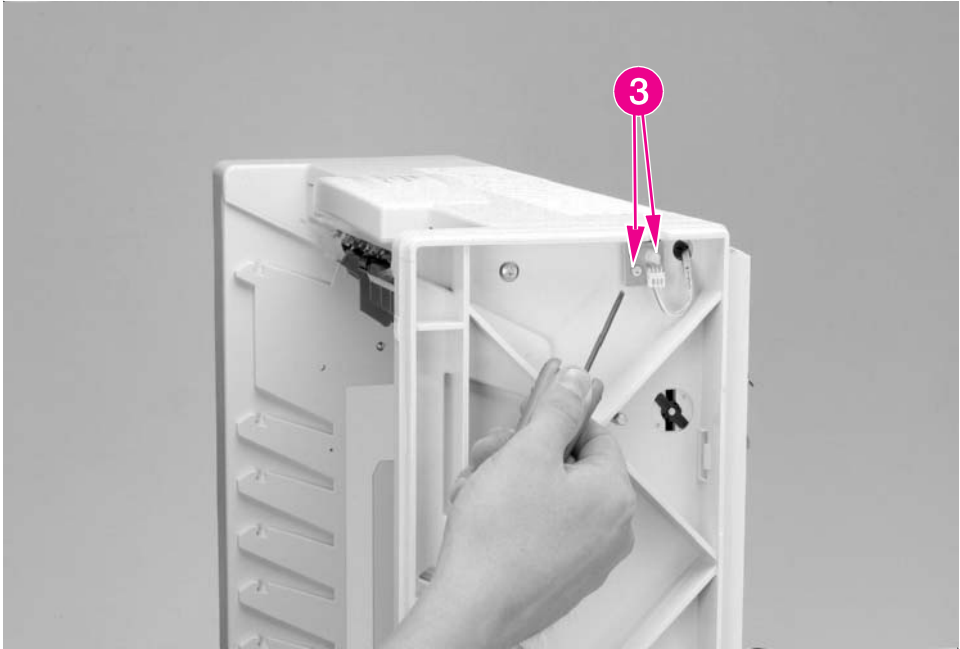

Figure 6-175 8-bin Mailbox User Status LED PCA (2 of 2)
- 3 Disconnect the cable from the User Status LED PCA (Figure 6-175, callout 2).